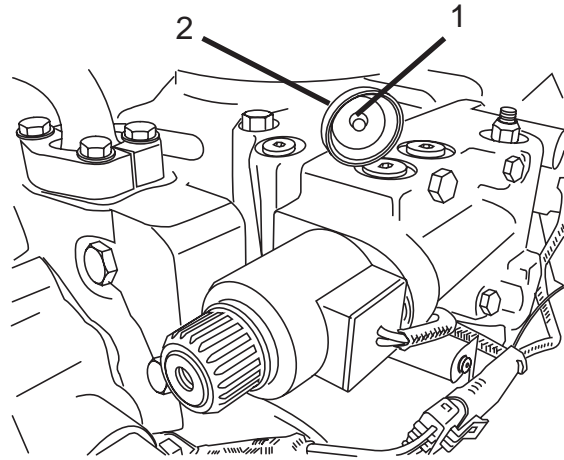

Figure 9
- 5. **For Traditional Controls with EP (Electric Proportional Controls) Only:** Install the pins (Figure 9, Item 1) in the override caps (Figure 9, Item 2).